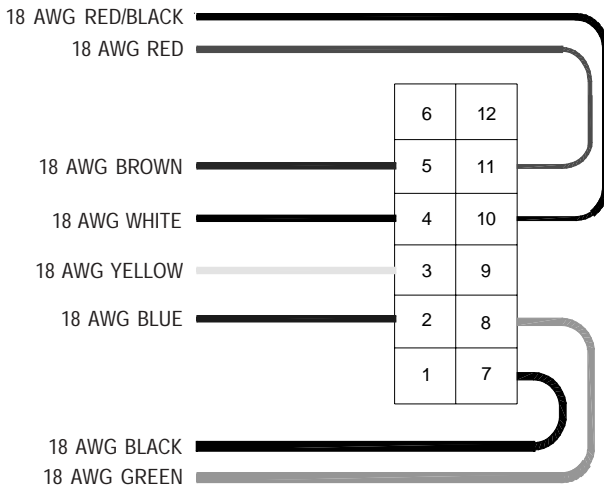

Figure5
1. First, install the Flasher in a protected location using the flasher itself as a template. Make sure all connectors are easily accessible. (Refer to Figure 5 and 6 for the following steps).